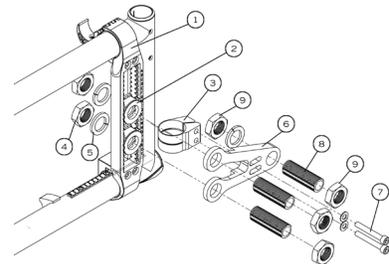

Fig. 32
- Install mounting plate (1) (Fig. 32) by closing the clamps around the frame.
- Insert a second axle receiver (2) on the axle plate
- Install the back clamp (3) onto the rear of the frame.
- Insert two axle bushing (8) through axle plate (6) and in the two axle receiver (2) and secure with bolt and washer (4)(5).
- Insert two screws (7) into amputee axle plate through the mounting clamp and tighten.
- Insert axle bushing (8) through the amputee plate and tighten nuts (9).